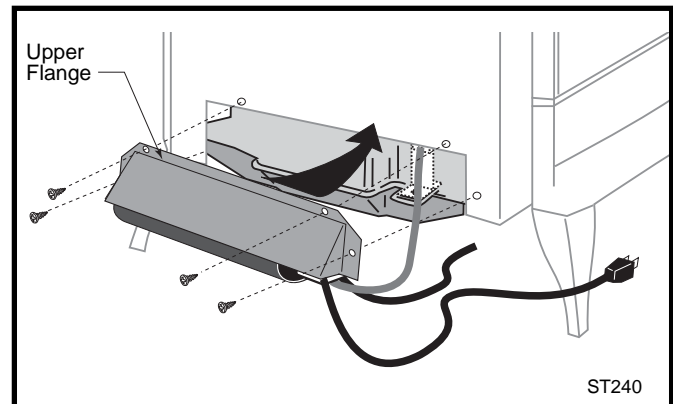

Fig. 12 The upper flange of the fan skirt should be located behind the lower edge of the shroud.
1. Attach the Snapstat to the Bracket using two #10 x 1/2" phillips sheet metal screws as shown in Figure 12.
3. Attach the Fan to the firebox by engaging the upper flange of the fan skirt under the lower edge of the Shroud and secure the skirt with the four screws provided with the kit. (Figs. 12, 13)